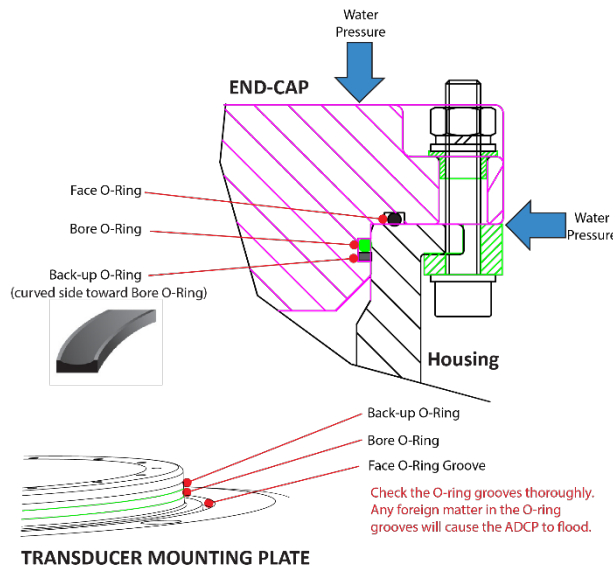

Figure 20. 300 kHz Narrow Beam Width Backup O-Ring Detail
- The backup O-ring (see Figure 20) is installed in addition to the 2-258 bore O-ring on the transducer head assembly for 300 kHz Narrow Beam Width systems only. Install the backup O-ring with the cupped side facing the 2-258 bore seal O-ring.